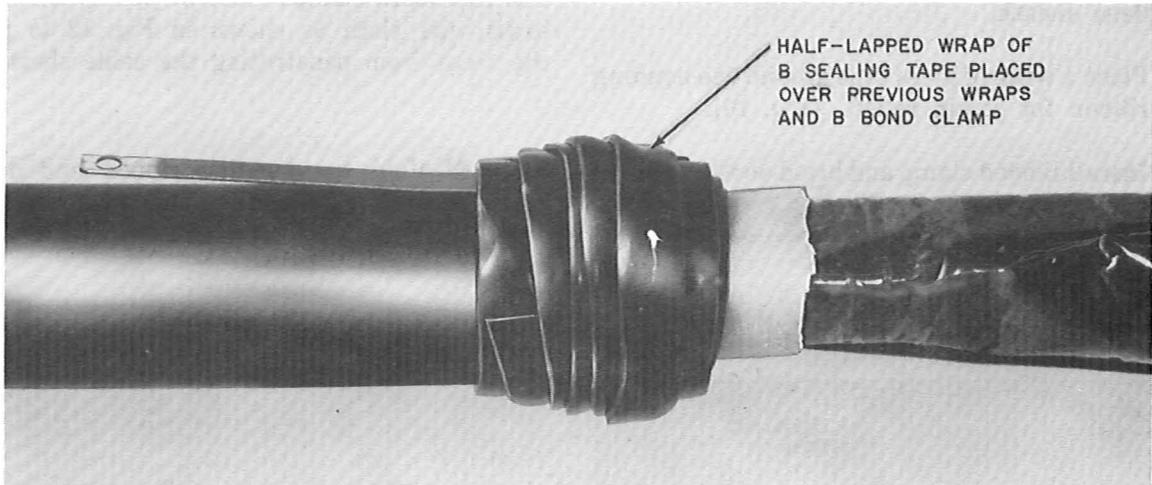

Fig. 8—Joint Wrapped With 3/4-Inch B Sealing Tape
5.02 Place half-lapped layers of B sealing tape over clamp and previous wraps as shown in Fig. 8.